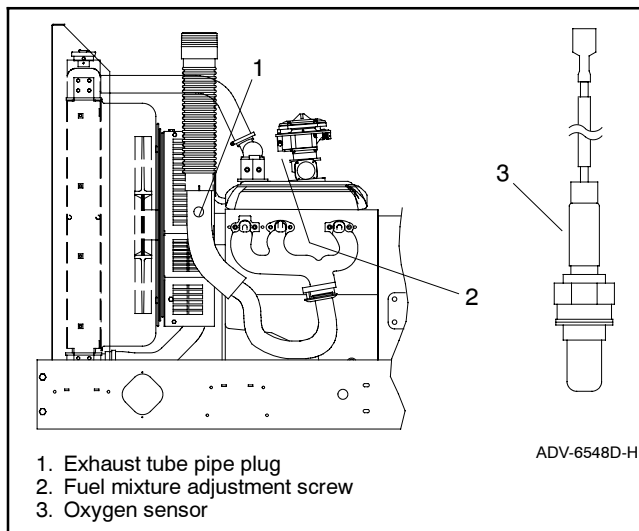

Figure 9-29 Oxygen Sensor Mounting Location, Typical (30 kW model shown)
- a. Remove the oxygen sensor pipe plug from the exhaust pipe. See Figure 9-29 for location.